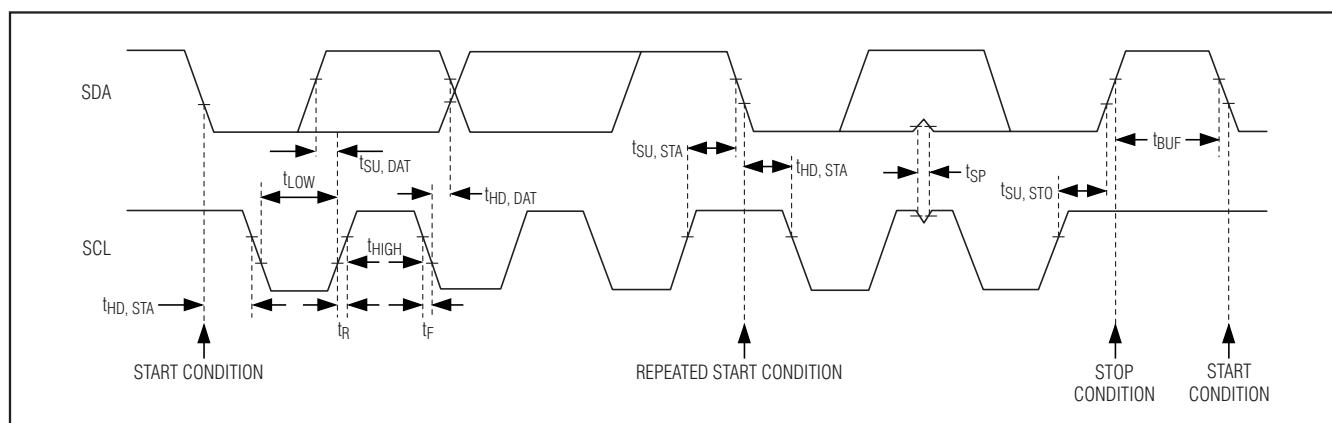

Figure 9. 2-Wire Interface Timing Diagram
The MAX9867 features an I²C/SMBus-compatible, 2-wire serial interface consisting of a serial-data line (SDA) and a serial-clock line (SCL). SDA and SCL facilitate communication between the MAX9867 and the master at clock rates up to 400kHz. Figure 9 shows the 2-wire interface timing diagram. The master generates SCL and initiates data transfer on the bus. The master device writes data to the MAX9867 by transmitting the proper slave address followed by the register address and then the data word. Each transmit sequence is framed by a START (S) or REPEATED START (Sr) condition and a STOP (P) condition. Each word transmitted to the MAX9867 is 8 bits long and is followed by an acknowledge clock pulse. A master reading data from the MAX9867 transmits the proper slave address followed by a series of nine SCL pulses. The MAX9867 transmits data on SDA in sync with the master-generated SCL pulses. The master acknowledges receipt of each byte of data. Each read sequence is framed by a START or REPEATED START condition, a not acknowledge, and a STOP condition. SDA operates as both an input and an open-drain output. A pullup resistor, typically greater than 500Ω is required on SDA. SCL operates only as an input. A pullup resistor, typically greater than 500Ω, is